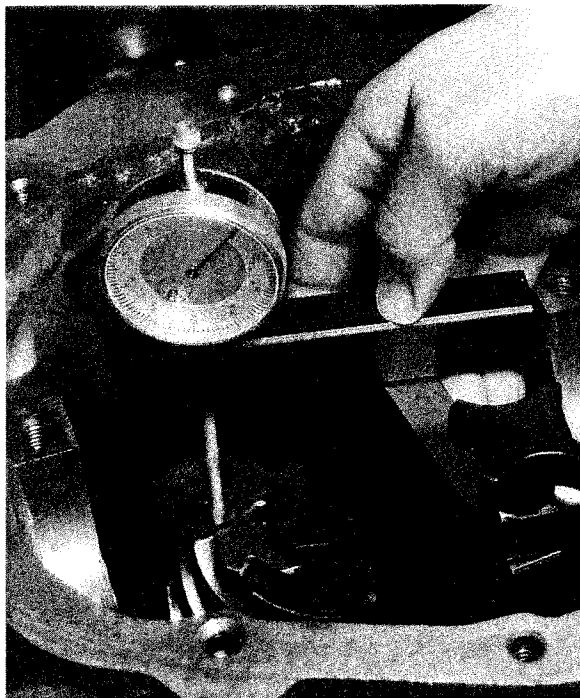

FIGURE 6
11. Place the Indicator Holder firmly and squarely on the Swing Bar, and move the Indicator tip into position on the end of the pinion, as shown in Figure 6. Note: on a removable-carrier type such as 9" Ford, measure to the top of the pinion stub protruding through the pilot bearing. Record the Indicator reading. Read tenths of an inch with the small pointer, hundredths and thousandths with the large pointer.